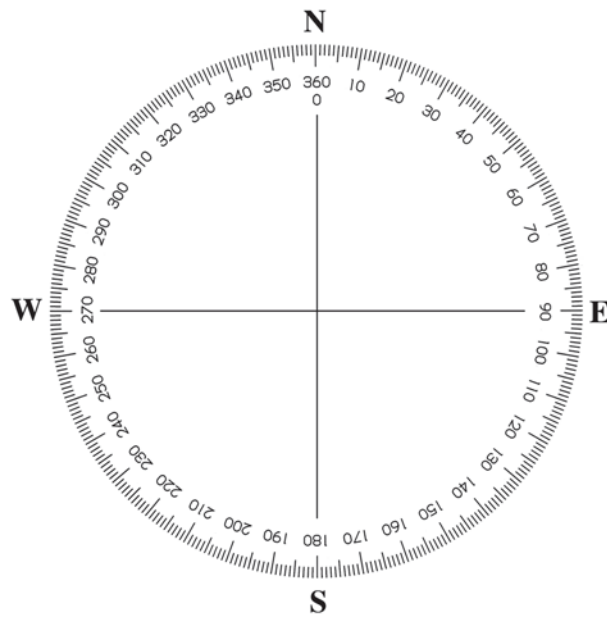

Figure 4-2. Cardinal points and degrees.
- **Housing with cardinal points and degrees.** The housing includes a revolving dial that shows the cardinal points (at least north, east, south, and west) and degrees (0 – 360) (Figure 4-2). The housing is rotated to line up the compass needle with the orienting arrow when taking a bearing.